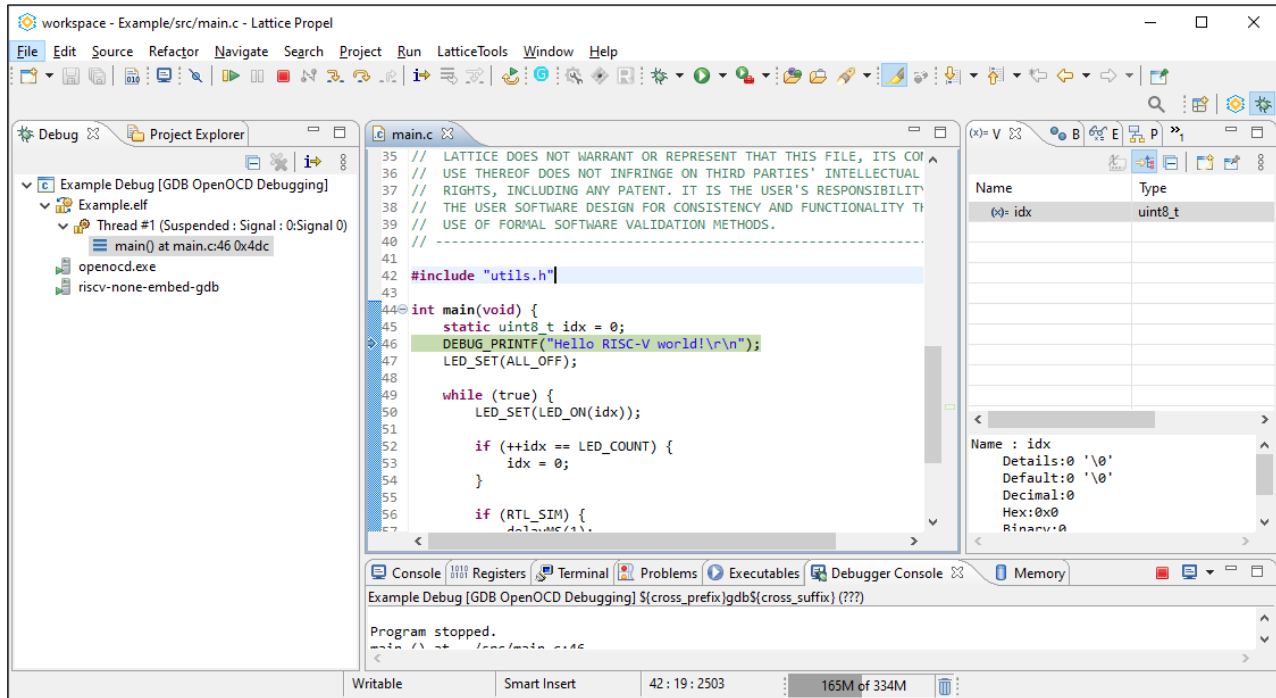

Figure 3.43. Debug Perspective 1
6. The Lattice Propel Window displays, as shown in Figure 3.43. The execution stops right at the beginning of the main() function.